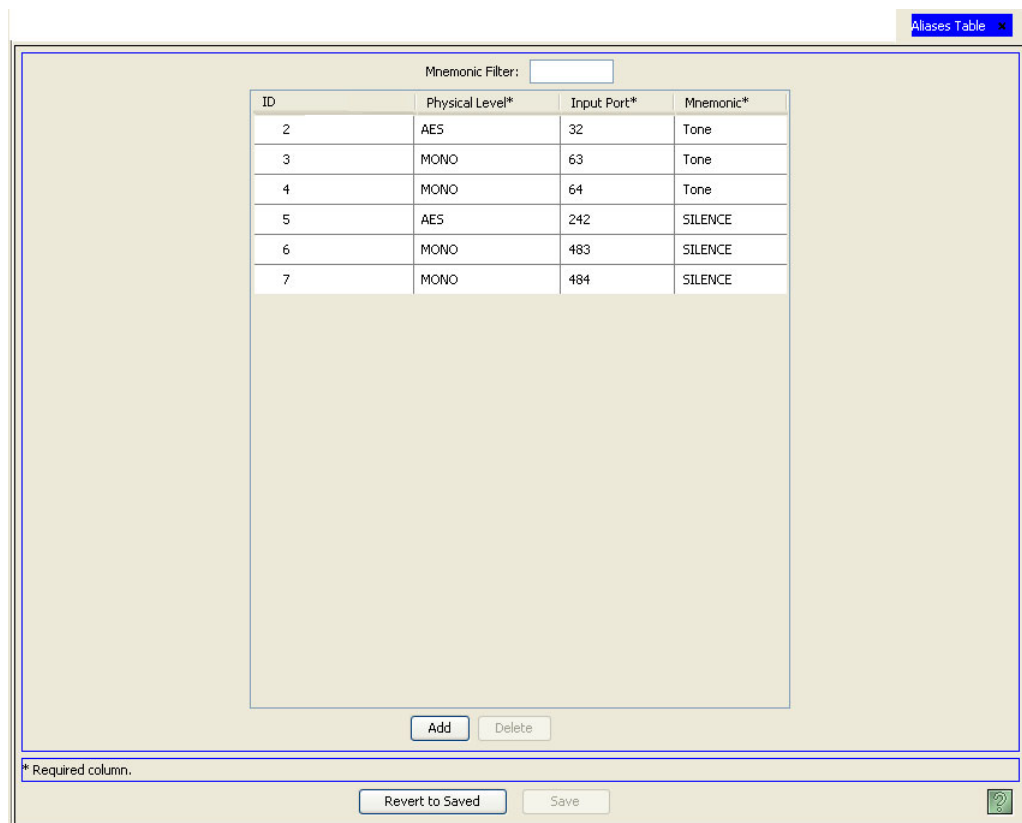

Figure 18-2. Aliases Table
- 1 From the Navigation area, select the ‘Views’ pane and then ‘Aliases’. The ‘Aliases’ table appears, as shown in Figure 18-2.